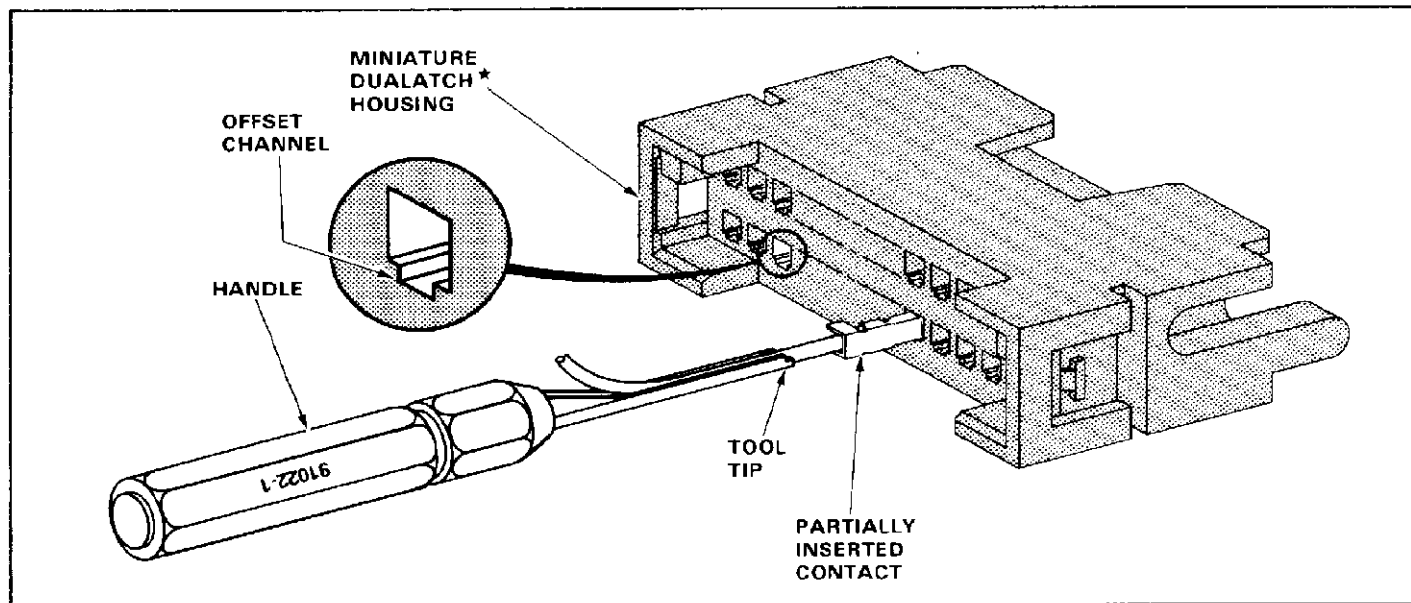

Fig. 1
2. DESCRIPTION (Figure 1)
2. Place the insertion tool tip against the shoulder of the contact as shown in Figure 1. Allow the wire from the contact to rest in the channel of the tool tip.